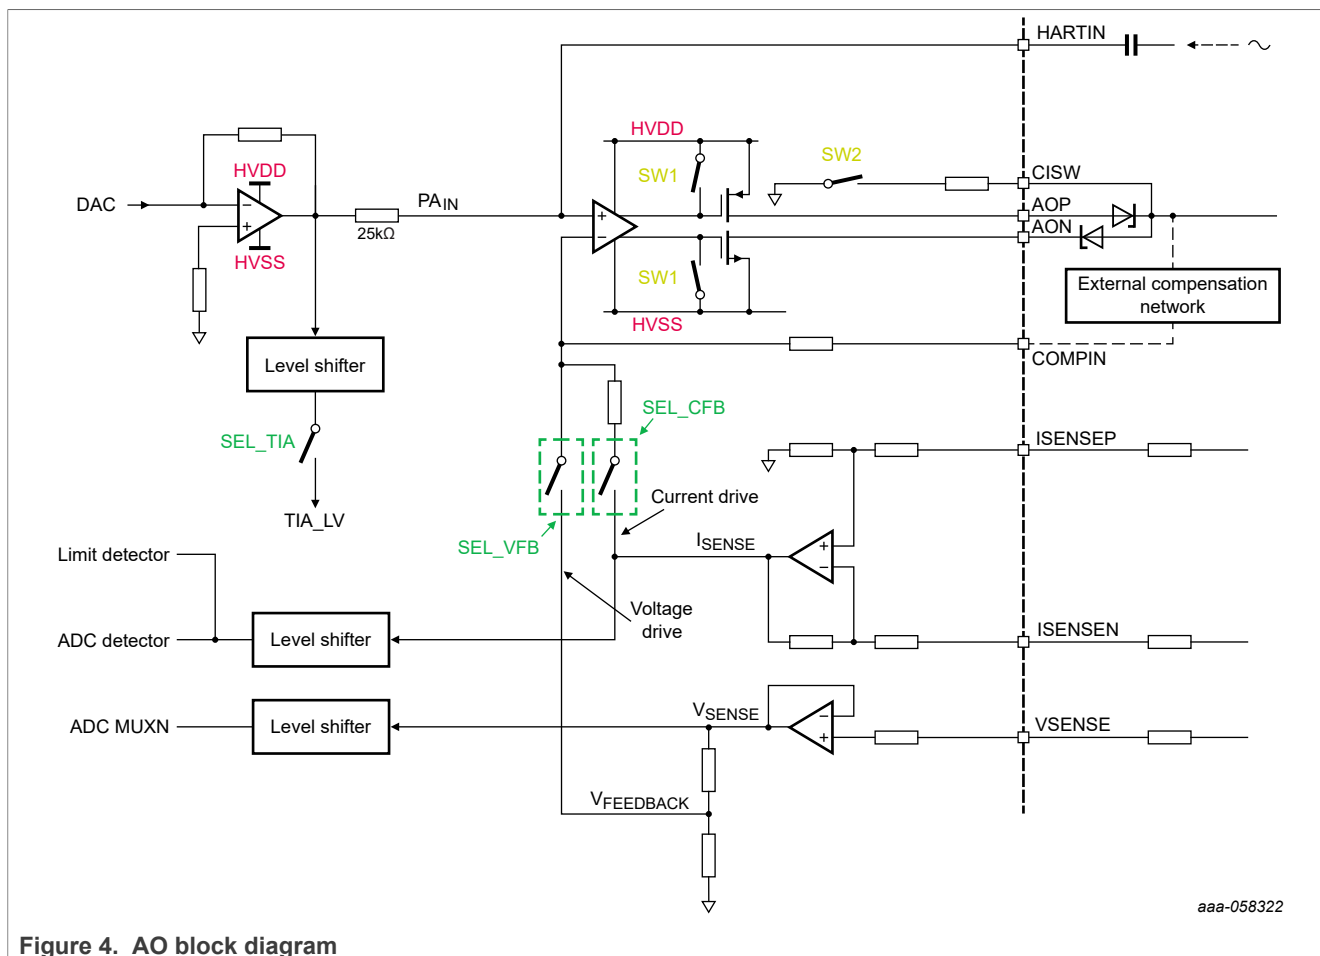

Figure 4. AO block diagram
As shown in Figure 4, an on-chip precise DAC is used as an output signal source, followed by a gain stage and power amplifier. The power amplifier can be configured for voltage output, current output, or high-impedance (Hi-Z state). The output of voltage feedback amplifier (VFB) and current feedback amplifier (CFB) is routed to ADC for the user to read-back. The CFB amplifier output is also used to monitor current limits and trigger protection mode to avoid damage in the system.
Figure 4 shows the power amplifier output block diagram.
As shown in Figure 4, several switches in the output stage allow different modes of operation: AO pin - high-Z, voltage output (VO), current output (CO), voltage input (VI), current input (CI).